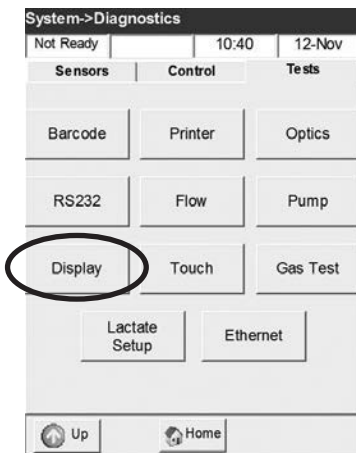

Fig. 7-30 Display Test
- Press **<Display>** to start the test (Fig. 7-30).